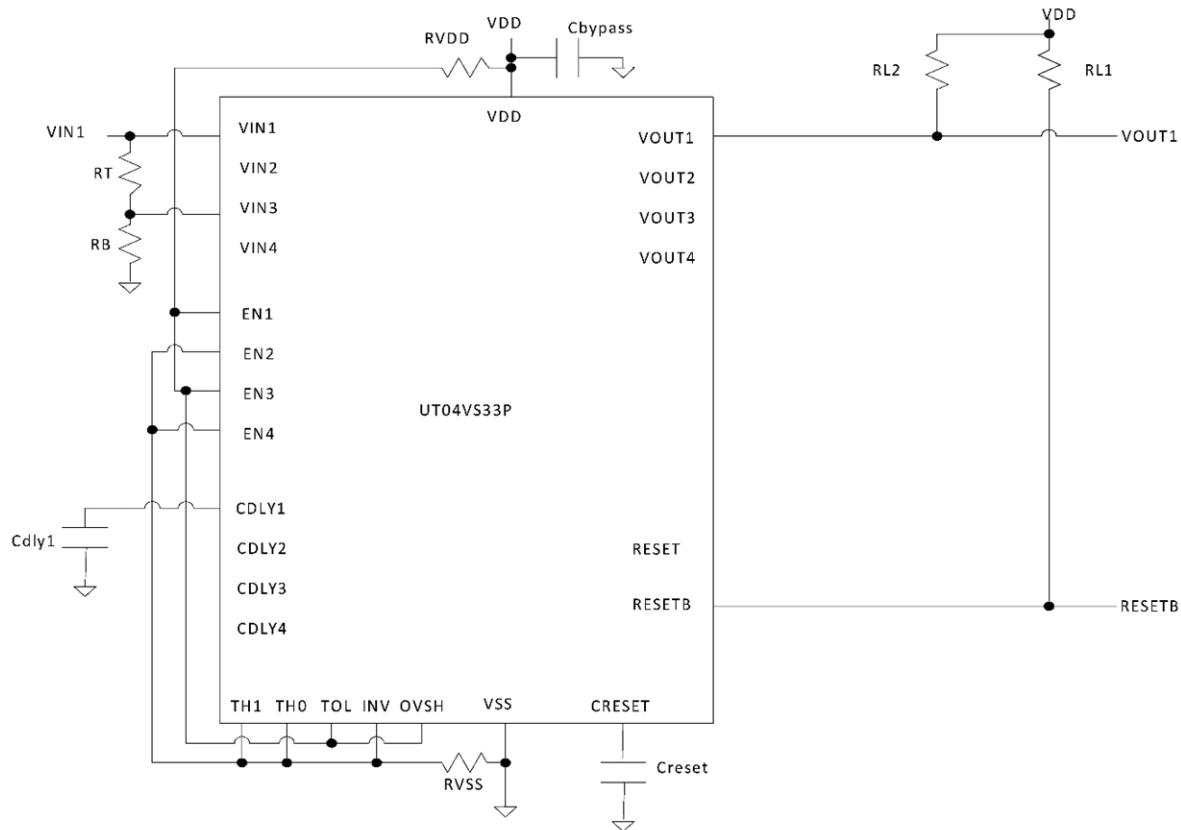
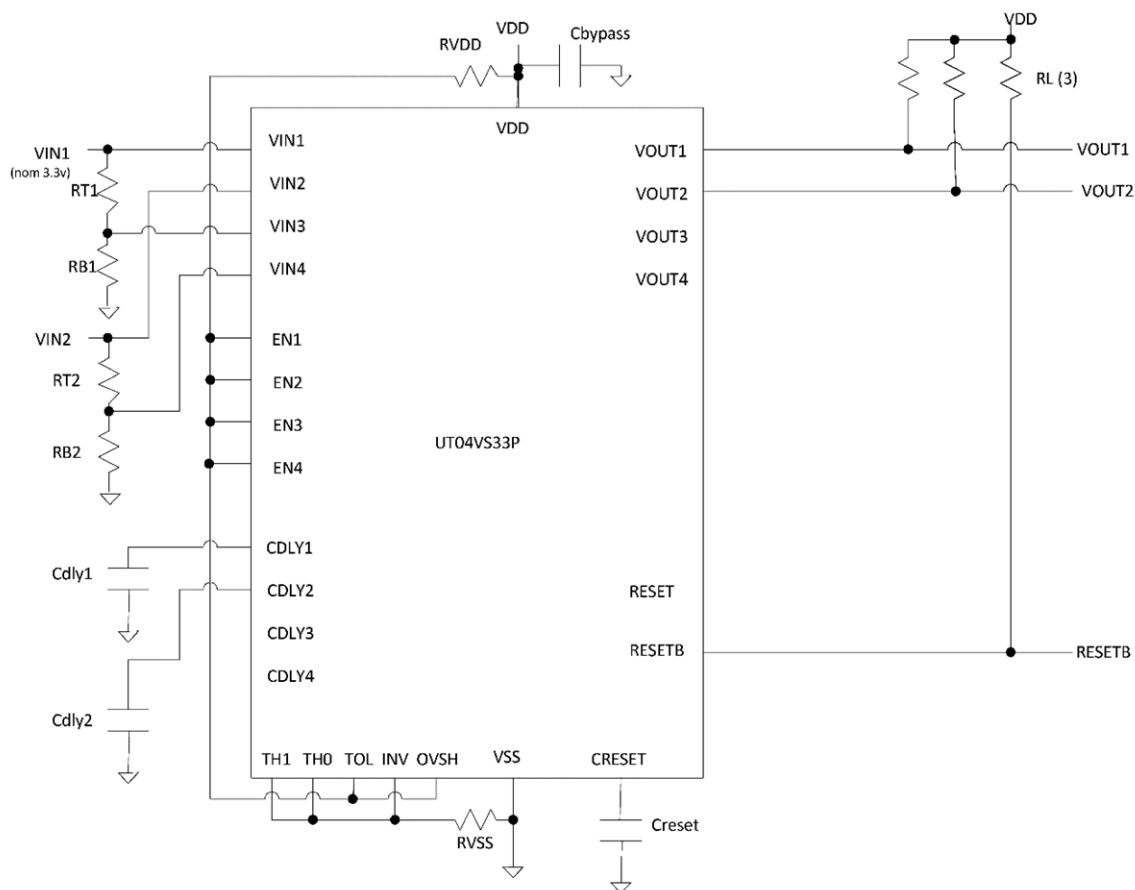

Figure 8. Extended use application showing OVSH connection for channel 1
Figure 9. Extended use application showing OVSH connection for channel 1 and 2
- For OVSH=1, V_{TH_OVRV} is the threshold which is set with external resistors to either the V_{IN3} or V_{IN4} input to monitor an over-voltage condition in conjunction with the under-voltage monitor by VIN1 or VIN2, respectively, as shown in Figure 8 and Figure 9.
Shown in Figure 8 is an extended application showing the use of Cdly and Creset capacitors. OVSH is set to logic 1 to highlight the under- and over-voltage detection mode connections. Thus, a resistor voltage-divider on channel 3 is connected from the channel 1 source.
Shown in Figure 9 is an extended application showing the use of Cdly and Creset capacitors. OVSH is set to logic 1 to highlight the under- and over-detection mode connections on channel 1 and channel 2. Thus, an r-divider on channel 3 and 4 are connected from the channel 1 and 2 source, respectively